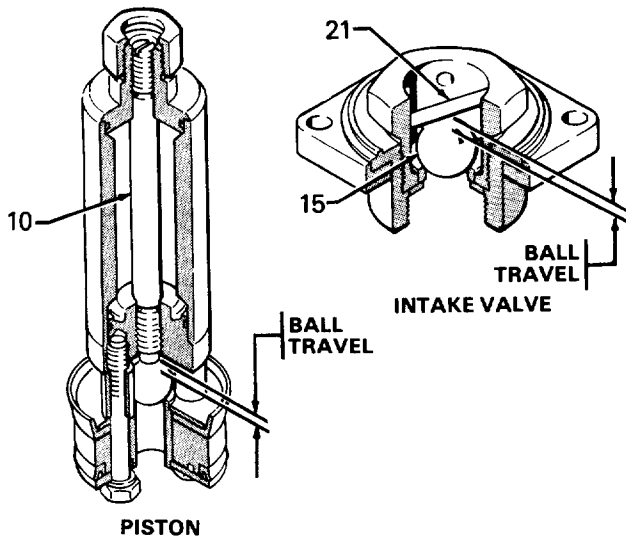

Fig 3
1. If heavy viscosity paint is used and erratic pump operation develops, increase the ball travel of the intake valve by moving the pin (21) to the center or upper set of holes, and in the piston valve by backing out the plunger bolt (10) two complete turns, or 0.28 in. (7.1 mm) total travel. See Fig 3.
2. If light paint is used and surging develops, decrease the ball travel in the intake valve by moving the pin (21) to a lower set of holes, and in the piston valve by screwing in the plunger bolt (10) two complete turns, or 0.09 in. (2.3 mm) total travel. See Fig 3.